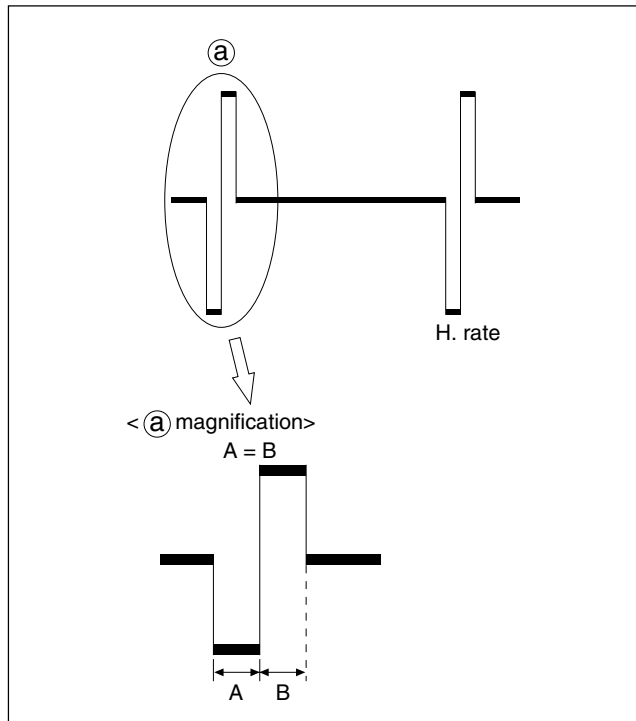

Fig. 3-3-1 PLL (MONI)
- 2) For the wavefor shown in the waveform chart (Fig. 3-3-1), equalize the width of A and B with each other by adjusting R7321.